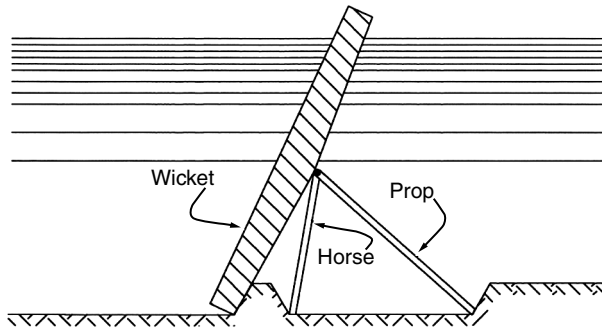

FIGURE W-13 Wicket dam.
**Wicket dam** A movable dam that consists of a wicket (a wooden or steel shutter) held against the water load by a hinged prop and horse. *See* Figure W-13.